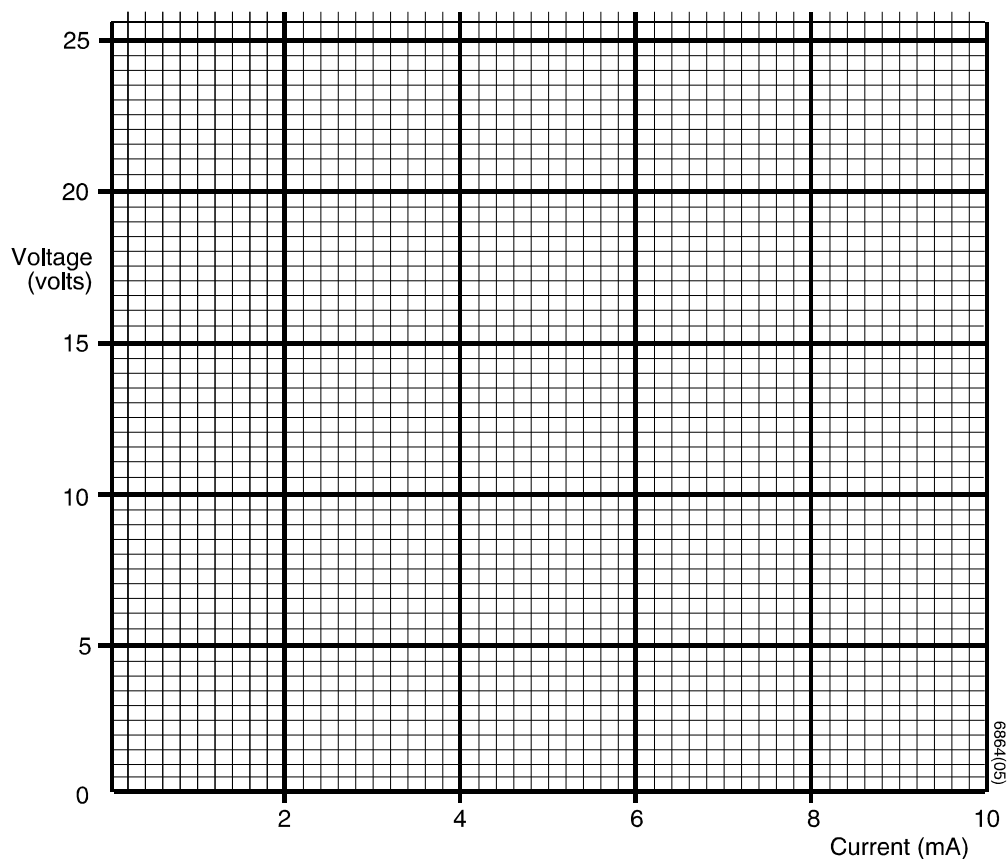

Figure 5
- j. Plot voltage against current, on the graph provided in figure 5, for both resistors.